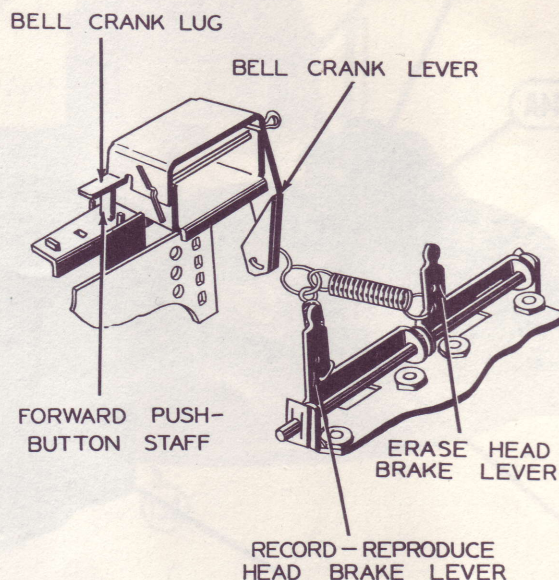

FIGURE 5—HEAD BRAKE
8. The erase and record-reproduce head brakes (133, 134) have a two-fold purpose. They keep the tape in proper contact with the heads and also keep a constant pressure against the tape to aid in maintaining the constant rate of tape travel. If the head brake pressure is insufficient, poor recording or playback will result because the tape will not be in proper contact with the head pole pieces. The speed of the tape will be uneven and too rapid. If the pressure is excessive, the tape speed will be slow and uneven. The head brake adjustment is illustrated in Fig. 5. The total pressure is adjusted by bending the actuating lug which extends from the bell crank assembly (141) and receives the pressure from the staff of the Forward pushbutton. Bending the lug away from the pushbutton staff decreases the pressure, and toward it increases the pressure. It is important to note that this regulates the *total* pressure applied to both heads. The portion of this total that is applied to either head is adjusted by carefully